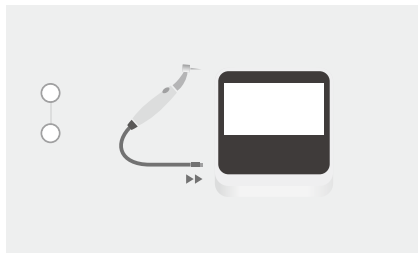

Fig. 38 Insert the motor handpiece
- During the calibration process the display will read (Fig.38):